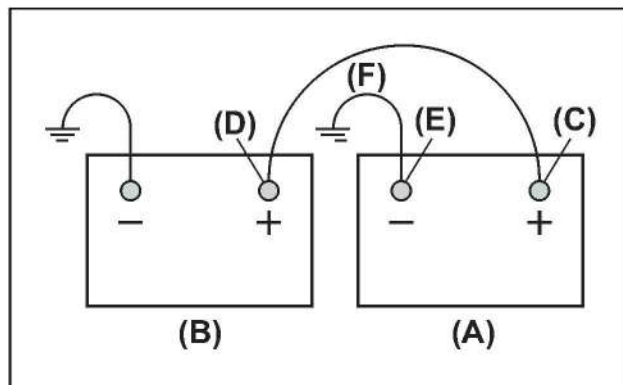

Fig 15-3
- (A) *Booster battery*
- (B) *Battery on a disabled tractor*
- (C) *Positive (+) post of booster battery*
- (D) *Positive (+) battery terminal on a disabled vehicle*
- (E) *Negative (-) post of booster battery*
- (F) *Other end of negative (-) booster cable*
3. Connect one end of the positive (+) booster cable to the positive (+) post of booster battery (Fig 15-3, C).
4. Connect the other end of positive (+) booster cable to the positive (+) battery terminal on the disabled tractor (Fig 15-3, D).
5. Connect one end of the negative (-) booster cable to the negative (-) post of booster battery (Fig 15-3, E).